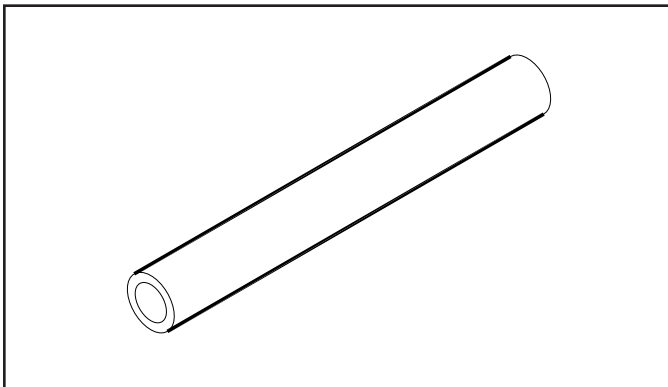

Figure 1-3: Wall Sleeve - 3/8" [10 mm] ID Ø
Lower track requires 1/4" [6 mm] minimum fasteners (D) with thru-bolts a minimum of every 4' [1219 mm]. Wall sleeves (Figure 1-3) and Backing Plates (Figure 1-4) may be required if wall crushes when fasteners are tightened.